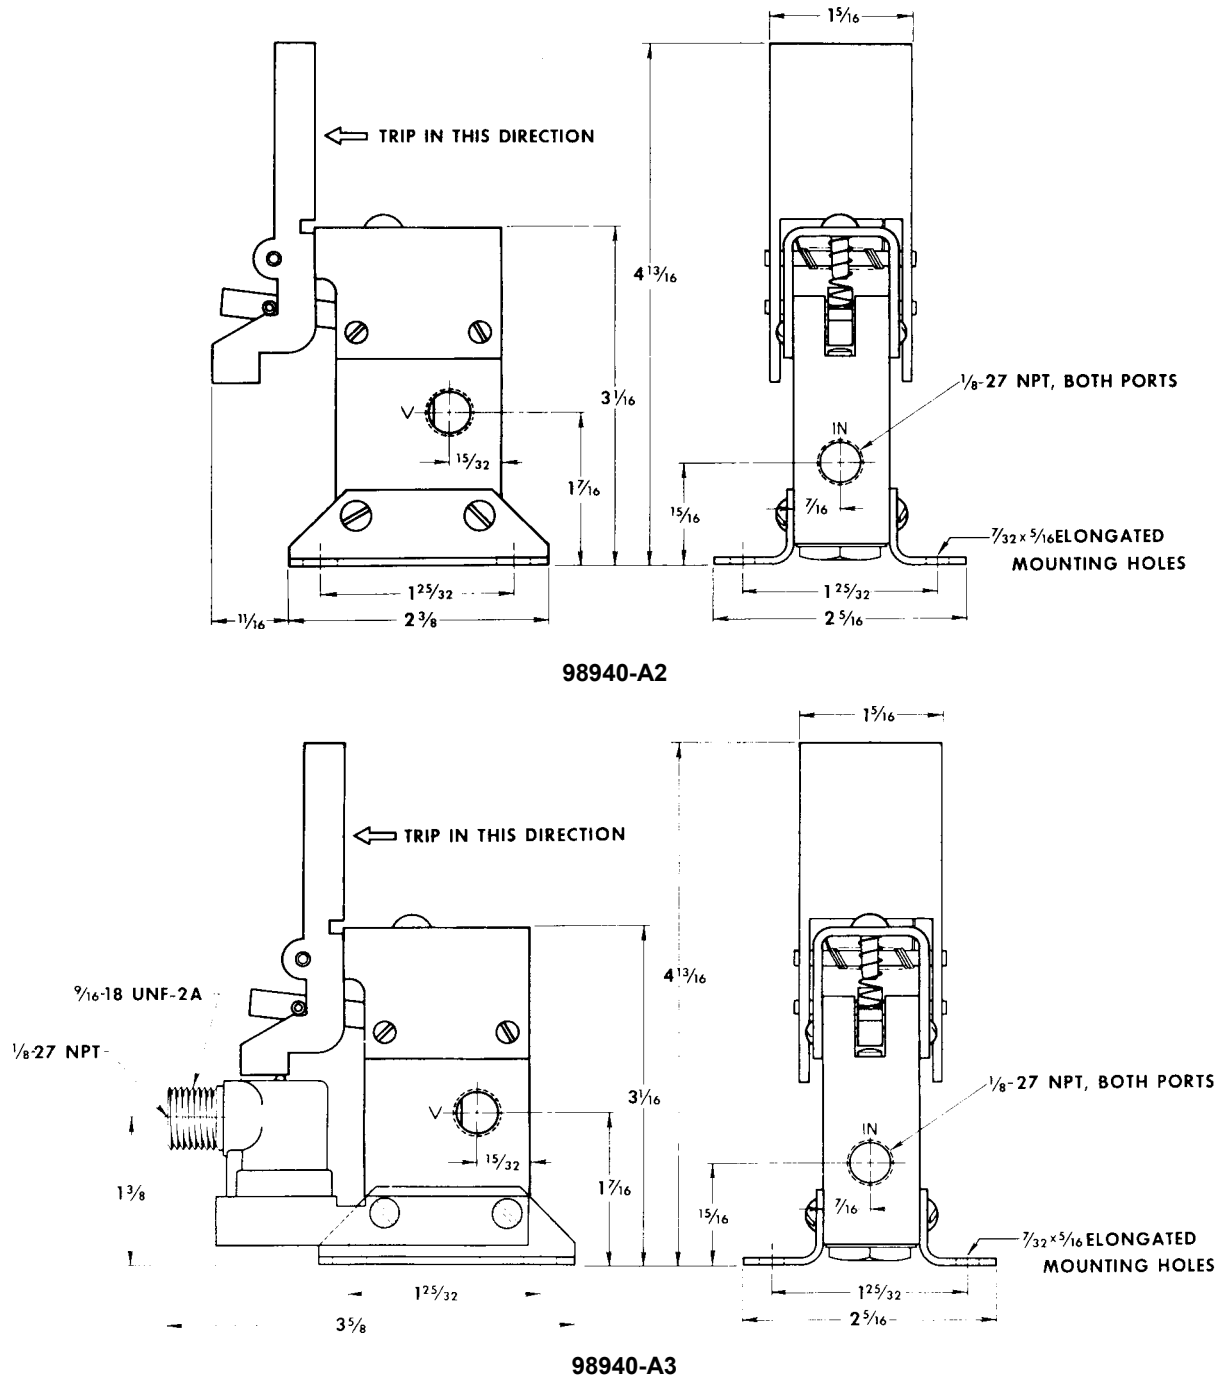

Figure 1
- Mounting:** .....Surface. (See Fig. 1)
- (1) Model
- (2) Any special features
The sensor may be installed in any position and should be securely mounted, using the four holes (clearance for No. 10 screws) provided in the mounting brackets. (See Fig. 1)